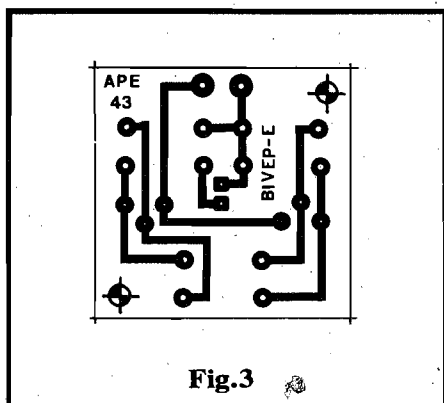
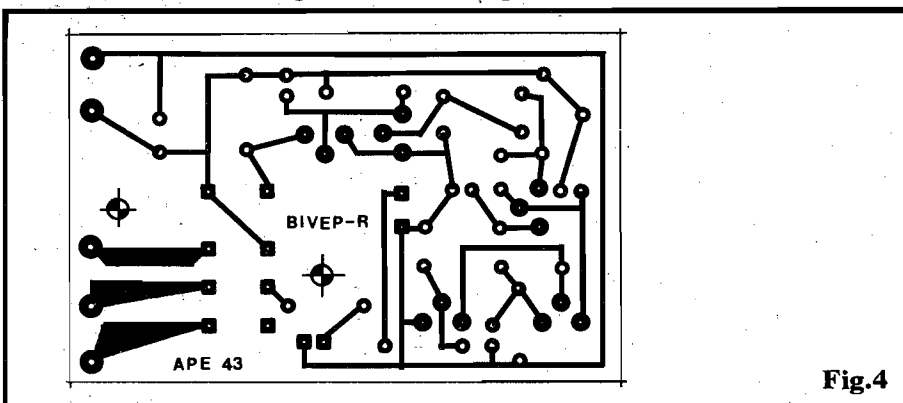

Fig.3
Fig.4
- FIG. 3 / FIG. 4 - LAY OUT DOS CIRCUITOS IMPRESSOS ESPECÍFICOS - Nas figs. 3 e 4 te-